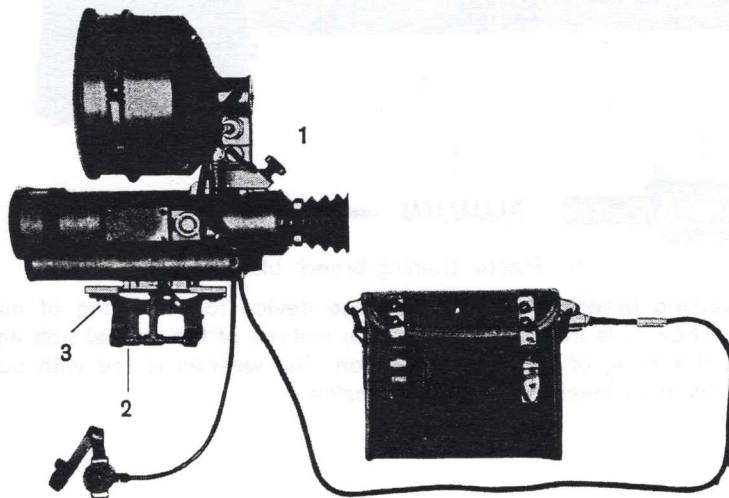

Fig. 29: Infra-red night sighting device with mount
##### (2) Infra-red night sighting device with mount (Fig. 29)